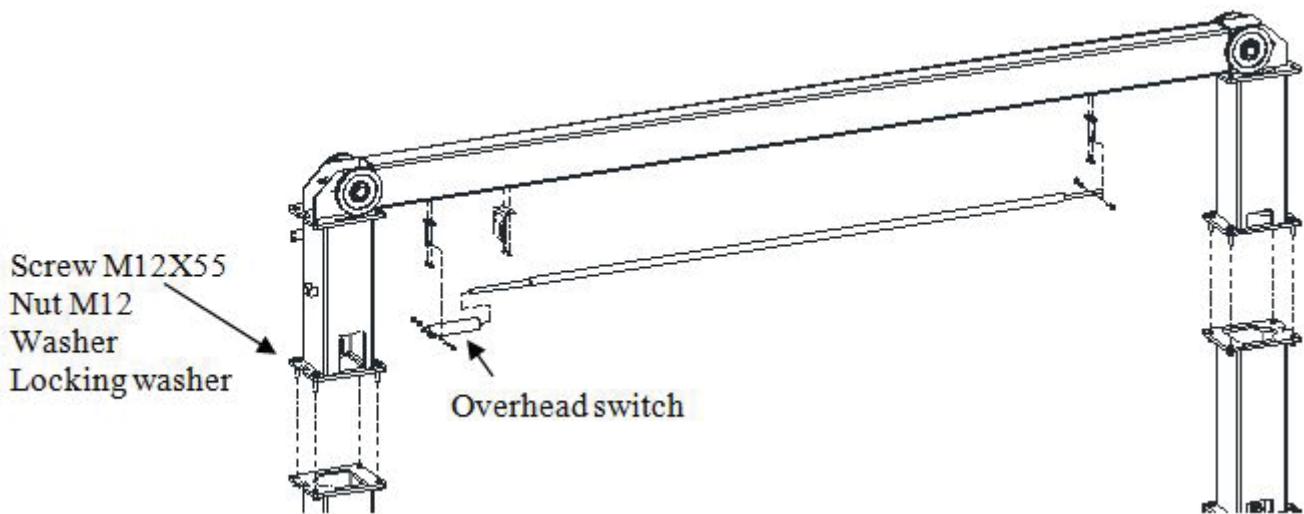

Figure 10 – Installation Of Overhead Beam
7.8 Installation Of Overhead Beam (Ref. Fig. 10)